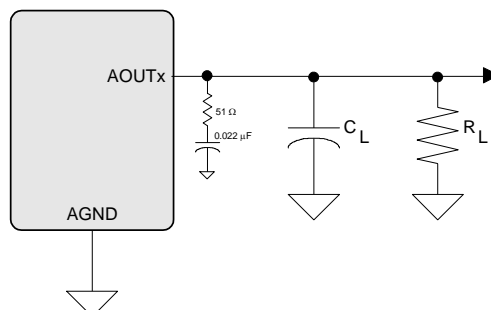

Figure 3. Headphone Output Test Load
(Test conditions (unless otherwise specified): Input test signal is a full-scale 997 Hz sine wave; measurement bandwidth is 10 Hz to 20 kHz; Sample Frequency = 48 kHz and 96 kHz; test load $R_L = 10\text{ k}\Omega$, $C_L = 10\text{ pF}$ for the line output (see Figure 3), and test load $R_L = 16\text{ }\Omega$, $C_L = 10\text{ pF}$ (see Figure 3) for the headphone output.
Test conditions (unless otherwise specified): Input test signal is a full-scale 997 Hz sine wave; measurement bandwidth is 10 Hz to 20 kHz; Sample Frequency = 48 kHz; test load $R_L = 10\text{ k}\Omega$, $C_L = 10\text{ pF}$ (see Figure 3).
Test conditions (unless otherwise specified): Input test signal is a full-scale 997 Hz sine wave; measurement bandwidth is 10 Hz to 20 kHz; Sample Frequency = 48 kHz; test load $R_L = 16 \Omega$, $C_L = 10 \text{ pF}$ (see Figure 3).
- See Figure 3. R_L and C_L reflect the recommended minimum resistance and maximum capacitance required for the internal op-amp's stability and signal integrity. In this circuit topology, C_L will effectively move the band-limiting pole of the amp in the output stage. Increasing this value beyond the recommended 150 pF can cause the internal op-amp to become unstable.